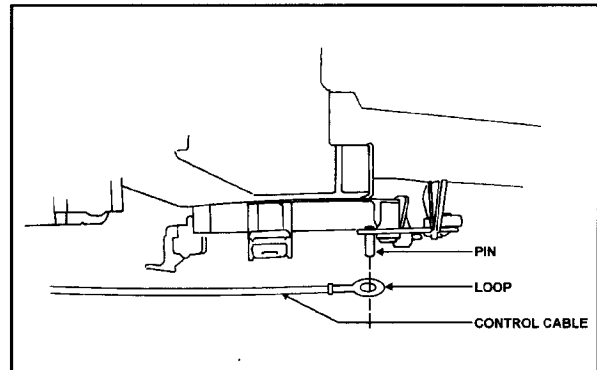

Figure 74: Removing Control 74
- 2) Remove control cable from heater unit. (Fig. 74)